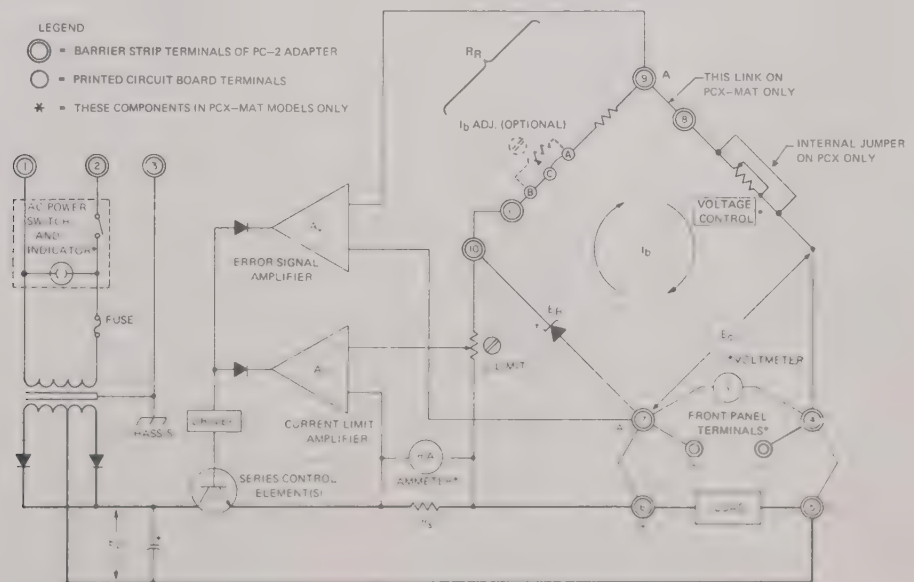

FIG. 4-1 PCX AND PCX-MAT POWER SUPPLY MODULE FEEDBACK REGULATOR SYSTEM (SIMPLIFIED SCHEMATIC)
- 4-2 This section contains the power supply circuit analysis. The operational theory, as far as it concerns remote programming, and the derivation of the transfer function were treated in Section III. The simplified diagram (FIG. 4-1) and the main schematic (FIG. 6-1) should be used to illustrate the contents of these paragraphs. References given in CAPITAL LETTERS refer to the nomenclature used in FIG. 4-1.
- e) The COMPARISON BRIDGE: This four-arm electrical bridge circuit is the regulating and controlling element in many KEPCO Power Supplies. In the PCX and PCX-MAT Model it consists of CR18 (E_r), R26 (R_r), the output voltage (E_o), and the voltage control resistance (R_{vc}). As shown in FIG. 4-1, a reference voltage (E_r) in series with the reference resistance (R_r) is continuously compared with the output voltage, (E_o) in series with the voltage control resistance, R_{vc} . At balance, a constant bridge current (I_b) is flowing through the bridge, keeping the error signal at bridge terminals (A) and (A') at approximately zero volts. Any deviation from the set output voltage will tend to change I_b in the sensing half of the bridge and thereby produce an error signal at the bridge terminals (A) and (A'). This error signal is then amplified and acts as a control signal for the series regulator transistor, changing the voltage drop across it in such a way as to compensate for the change in output voltage.